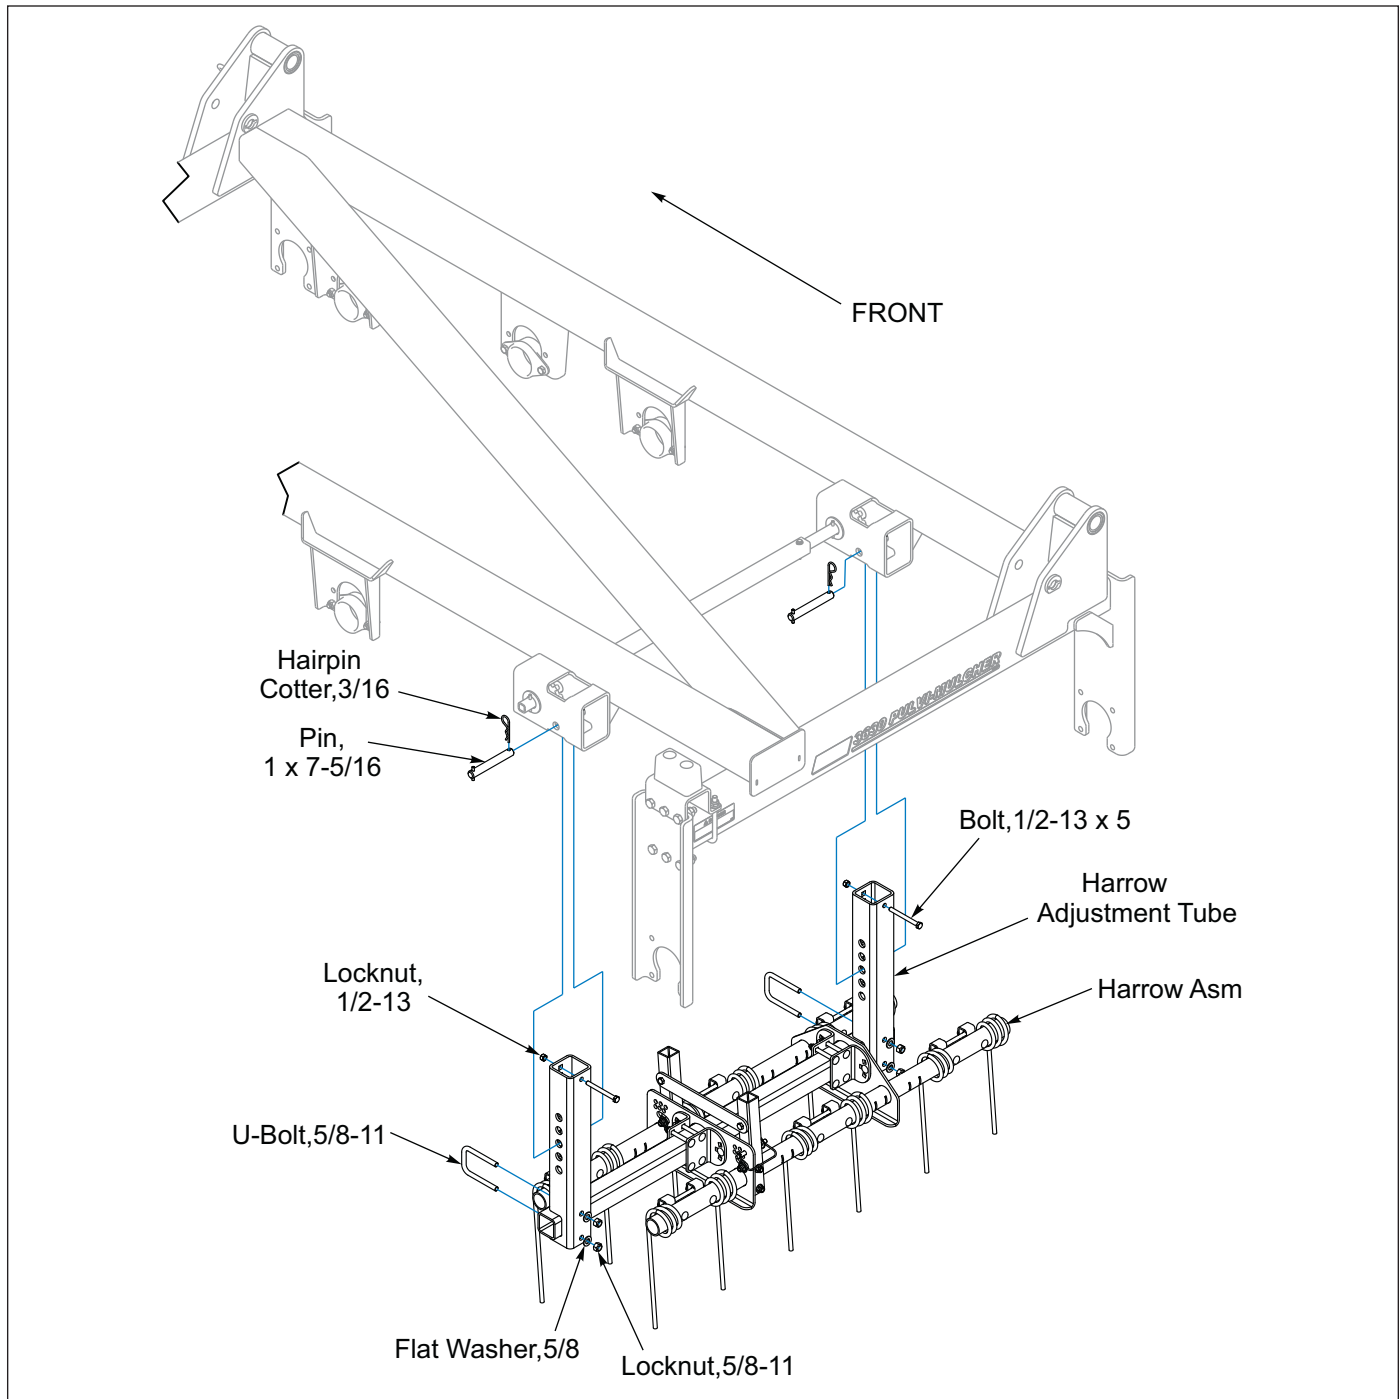

Figure 2-60: Left Hand Wing Harrow
1. Remove 1 x 7-5/16 Pins from each Wing Frame Adjuster Mount. Insert a Harrow Adjustment Tube into each Wing Frame Adjuster Mount and re-insert 1 x 7-5/16 Pin in the bottom hole. Secure with 3/16 Hairpin Cotter. **See Figures 2-60 and 2-61.**